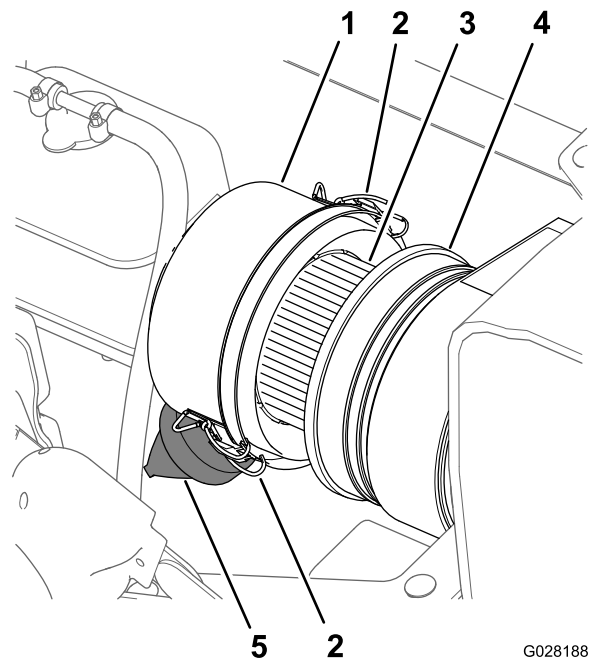

Figure 67
- Clean the dust cap and air-cleaner body (Figure 67).
- Check the air-cleaner body for damage that could cause an air leak (Figure 67).
- Squeeze the dust valve to clear it of dirt, dust, and debris (Figure 67).
- Check the air-filter element for excessive accumulation of dust, dirt, and debris (Figure 67).
8. Install the dust cap onto the air-cleaner body and secure the cap with the 2 latches (Figure 67).
2. Clean the dust cap and air-cleaner body (Figure 67).
6. Clean the inside of the dust cap, air-cleaner body, and dust valve with a damp rag (Figure 67 and Figure 68).